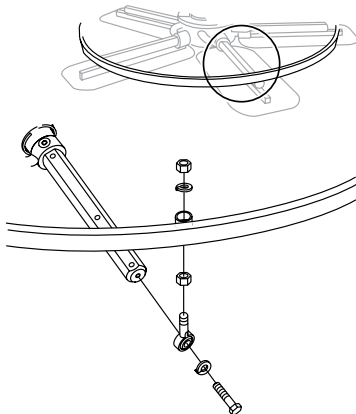

Figure 39. Stabilizer Ring
1. Remove the hardware securing the stabilizer ring to the trowel arm. (Figure 39)